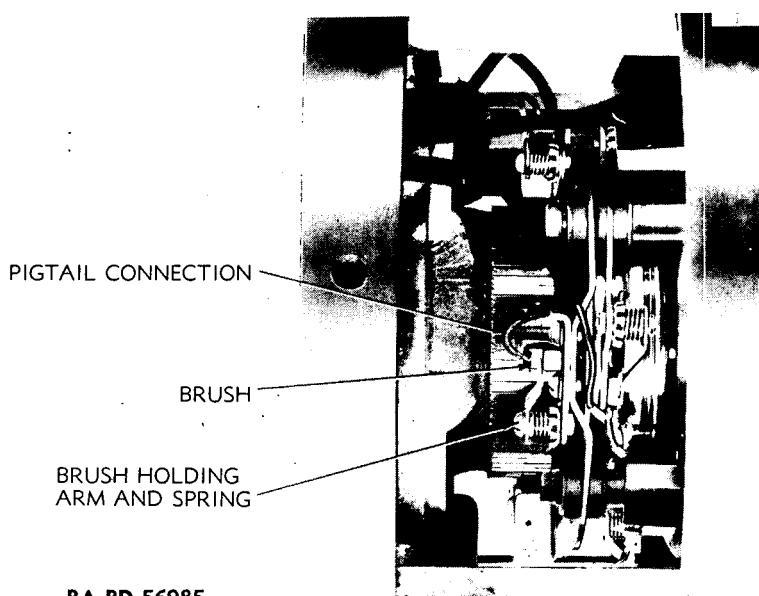

Figure 76—H. B. Co. Unit—View Through Exciter and Alternator Brush Holder Ring
g. **Brush Spring Removal (H. B. Co. Unit) (fig. 76).**
i. **Brush Spring Removal (H. B. Co. Unit)** (fig. 76).
(1) **REMOVE EXCITER BEARING BRACKET COVER** (subpar. d (1), above).